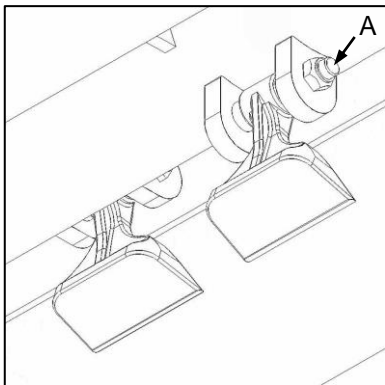
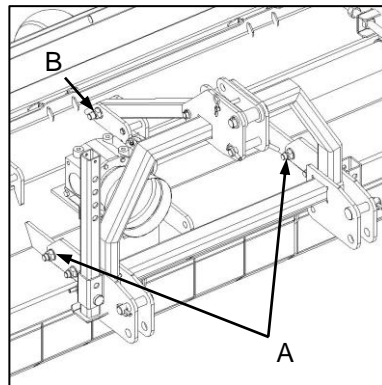
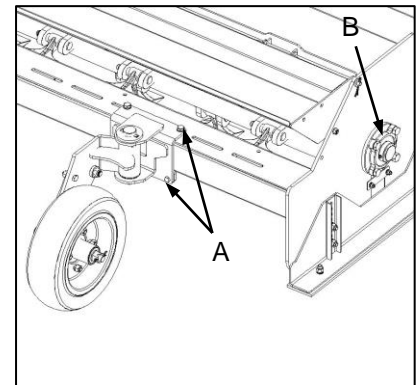

Fig. 4
Fig. 5
Fig. 6
- ✔ Check all fasteners for tightness. Pay special attention to safety-critical fasteners such as blade bolts and nuts (Fig. 4-A), hitch frame mounting bolts (Fig. 5-A / B), rotor mounting bolts (Fig. 6-A) and wheel mounting bolts (Fig. 6-B).
- ✔ Verseker dat alle hegstukke vas is. Gee spesiale aandag aan veiligheidskritieke hegstukke soos lemboute en lemmoere (Fig. 4-A), haakraammonteerboute (Fig. 5-A / B), rotormonteerboute (Fig. 6-A) en wielmonteerboute (Fig. 6-B).